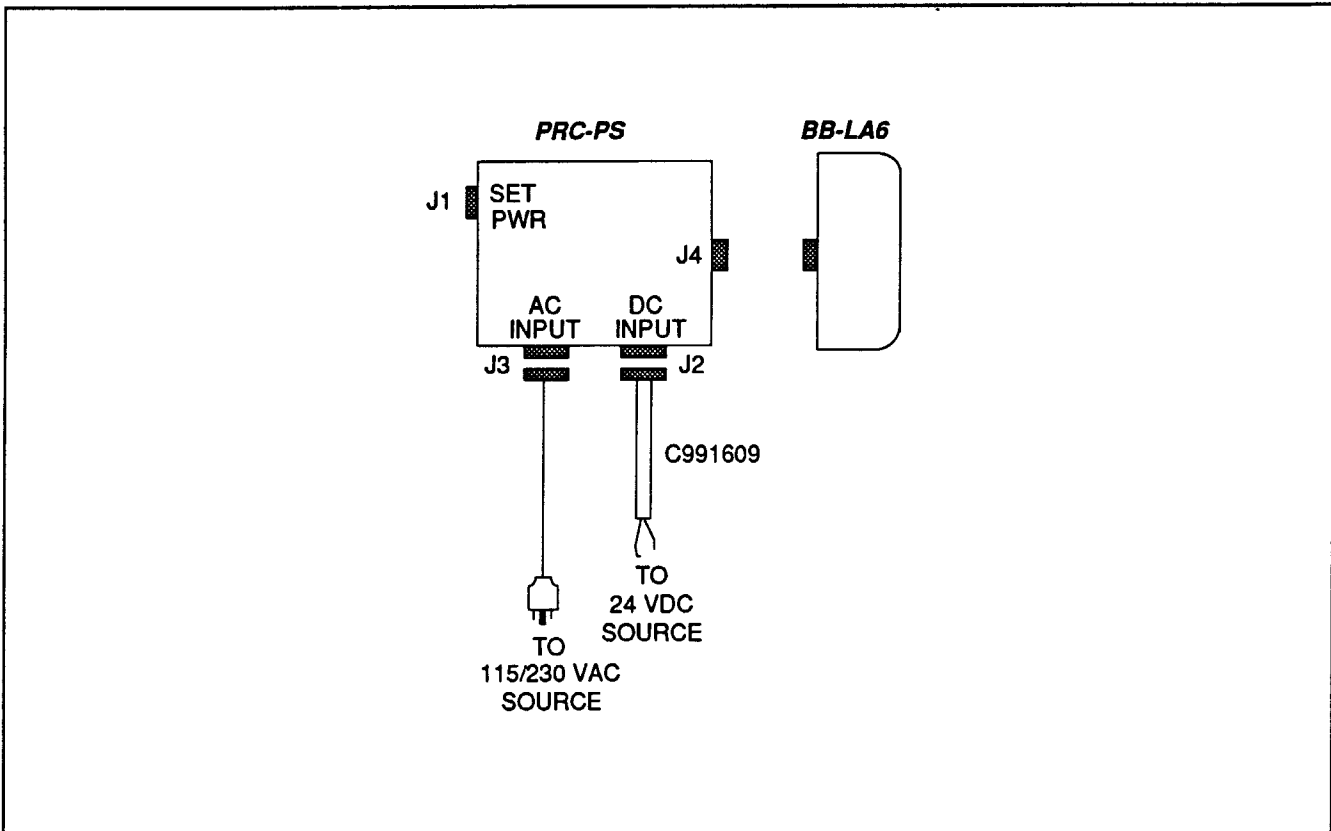

FIGURE B-2.
1. Attach a BB-LA6 to the PRC-PS as shown in Figure B-2.